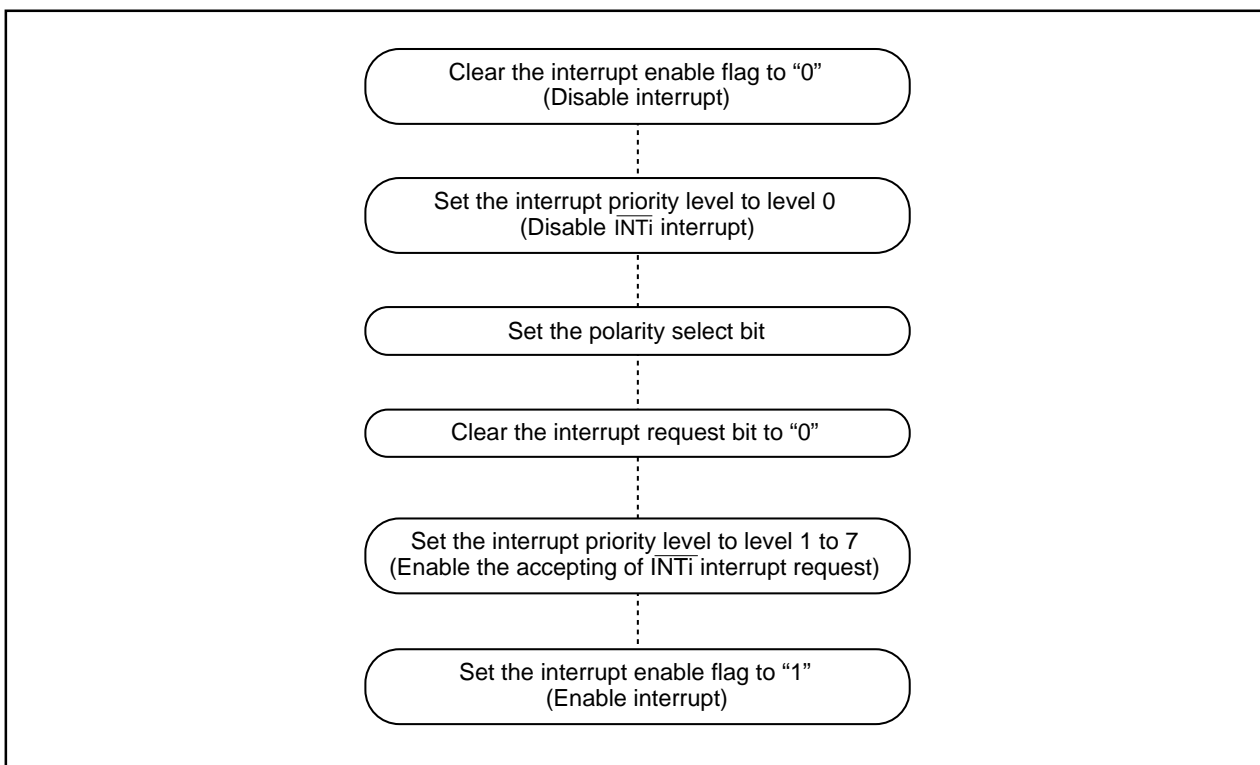

Figure 4.7.1. Switching condition of  $\overline{INT}$  interrupt request
- When the polarity of the  $\overline{INT_0}$  to  $\overline{INT_5}$  pins is changed, the interrupt request bit is sometimes set to "1". After changing the polarity, set the interrupt request bit to "0". Figure 4.7.1 shows the procedure for changing the  $\overline{INT}$  interrupt generate factor.